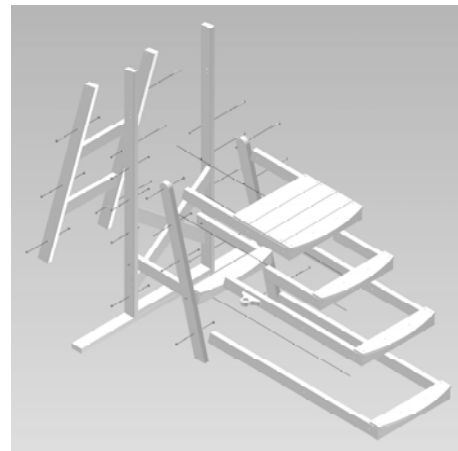

Fig. 4
Step 2) Loose assemble the Step Assemblies ("F", "G", "H" and "I") to the Back Frame Assembly ("C") and to the two Front Legs by using Twenty-two (22) 5/16-18 x 3 1/2" S.S. Hex Head Bolts, Twenty-two (22) 5/16" S.S. Flat Washers, and Twenty-two (22) 5/16" S.S. Nylock Hex Nuts. **See Figure 4.**